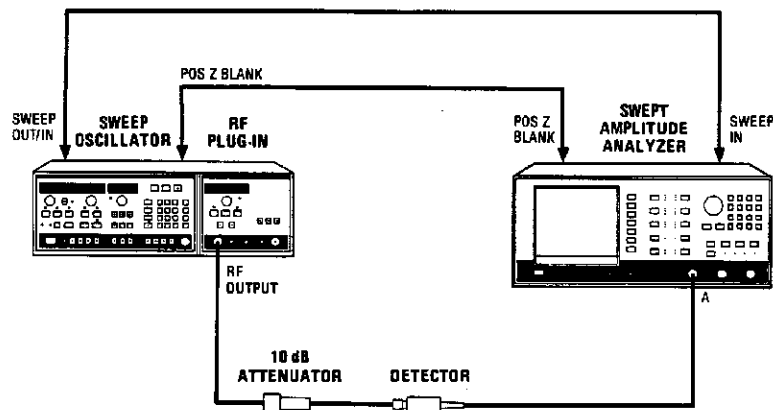

Figure 5-43. Power Sweep Test Setup
1. Connect the equipment as shown in Figure 5-43. On the Model 8350A/B, press [INSTR PRESET] [ ] [MOD]. Allow the equipment to warm up for one hour.